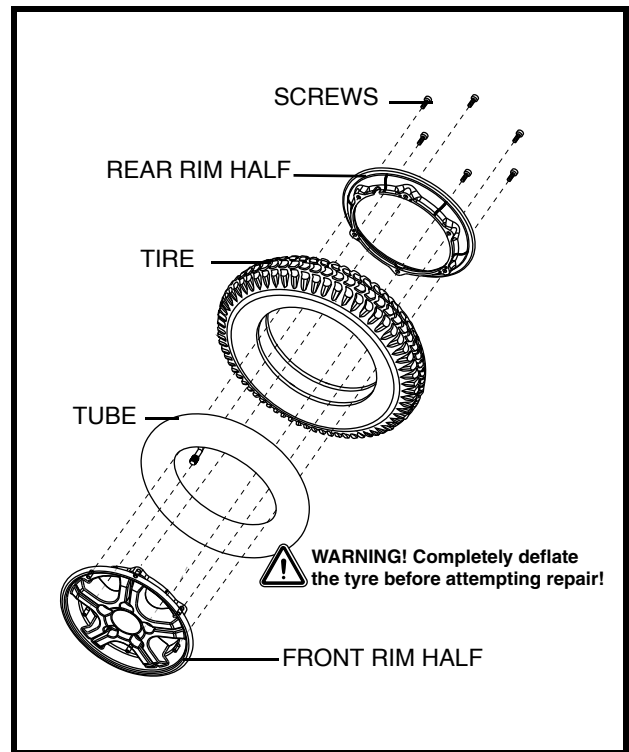

Figure. 22. Drive Wheel Assembly
6. Remove the screws and separate the rim halves. **See figure 22.**
8. Reassemble the rim halves. **See figure 22.**